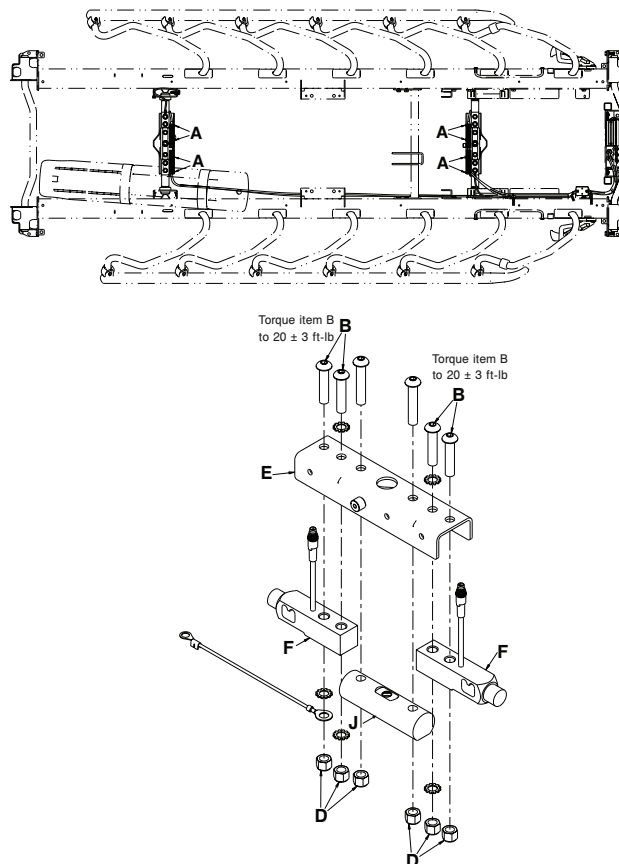

Figure 54 – Load cell replacement
3. Using wire cutters, cut the cable ties (A) that secure the cable to the lifthead bracket (Figure 54).